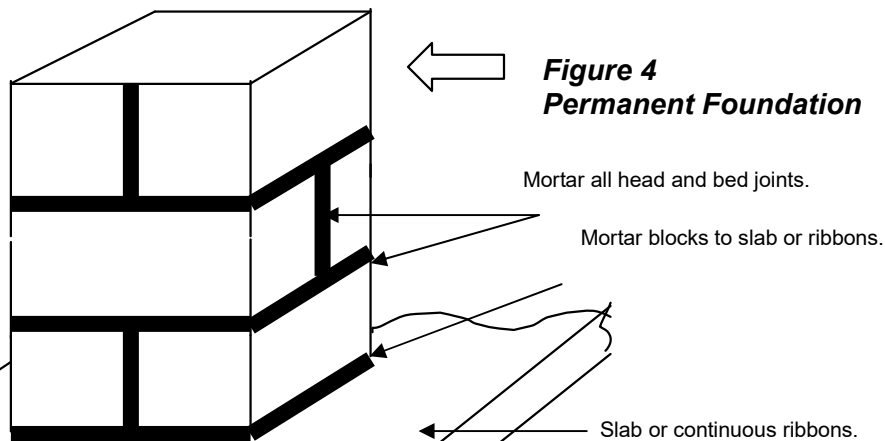

Figure 4
- b. You can stub steel rebar into the concrete, place the blocks over the rebar and fill the empty cells with grout. See Figure 4 below.